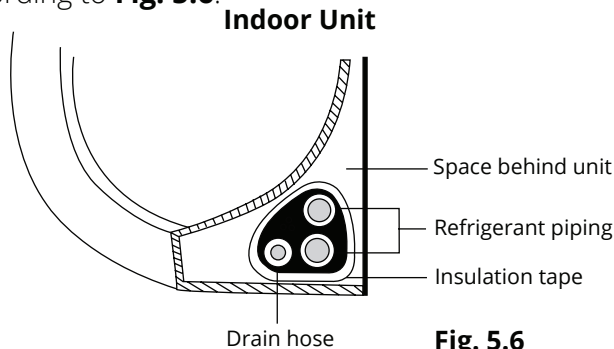
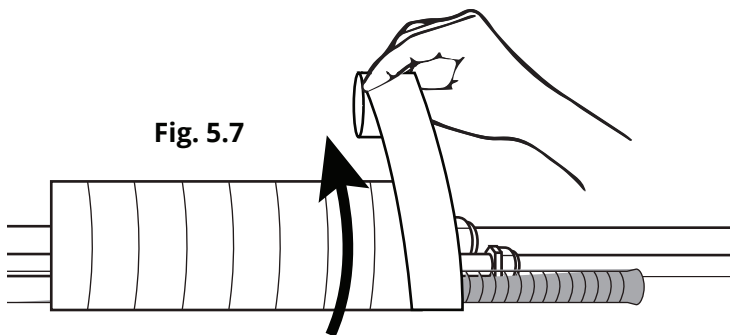

Fig. 5.6
Fig. 5.7
1. Bundle the drain hose and refrigerant pipes according to **Fig. 5.6**.
3. Using insulation tape, wrap the refrigerant pipes and drain hose tightly together. See **Fig. 5.7** for example. Double-check that all items are bundled in accordance with **Fig. 5.6**.